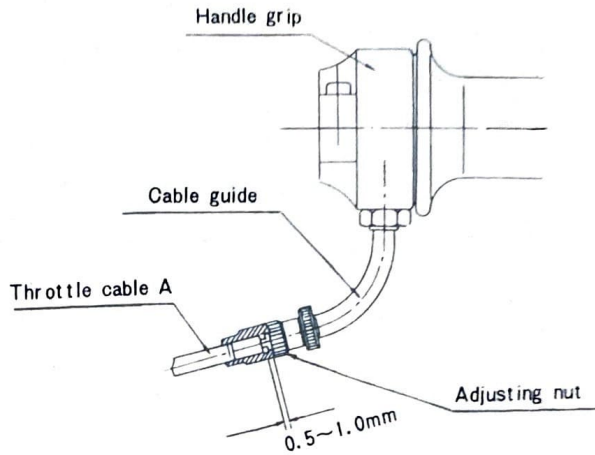

Fig. 2-3-3
- b. Adjust the play of the throttle cable connected to the handle grip to 0.5~0.1 mm. Do this by turning the adjusting nut to the cable guide. (Fig. 2-3-3)